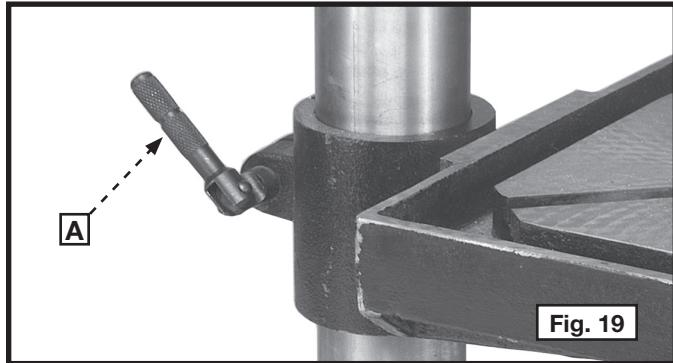
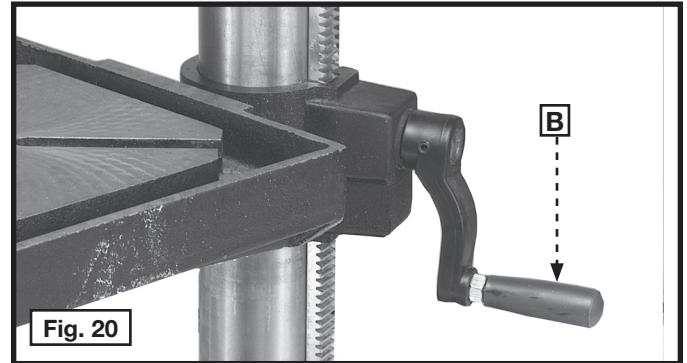

Fig. 19
Fig. 20
1. You can raise or lower the table by loosening the table clamp (A) Fig. 19, and turning the table adjusting handle (B) Fig. 20. After the table is at the desired height, tighten clamp (A) Fig. 19.
2. You can rotate the table 360 degrees on the column by loosening the clamp (A) Fig. 19, rotating the table to the desired position, and tightening the clamp (A).